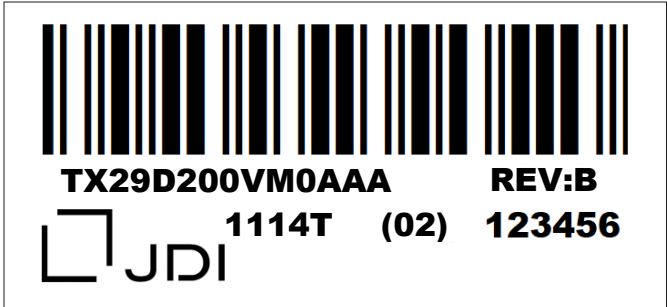

Fig. 13.2
4) The location of the lot mark is on the back of the display shown in Fig. 13.2